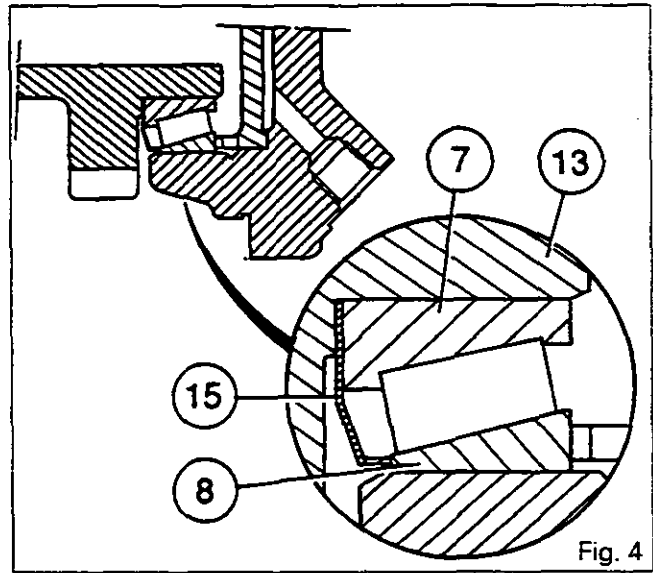

Fig. 4
26. Remove the screw (6) and the washer (5).
27. Separate the pinion (13) from the shaft (2).
Note : A deflector (15) is mounted between the pinion (13) and the bearing cone (7), in contact with the cup (8) (Fig.4).